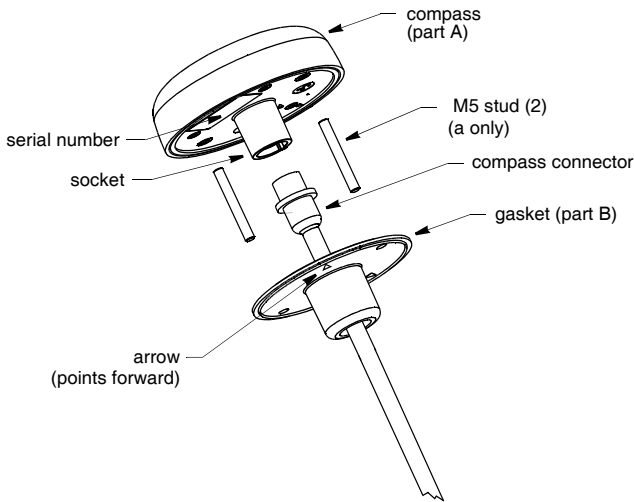

Figure 2. Preparing the compass
1. Remove the label from over the compass's socket (part A) (see Figure 2).